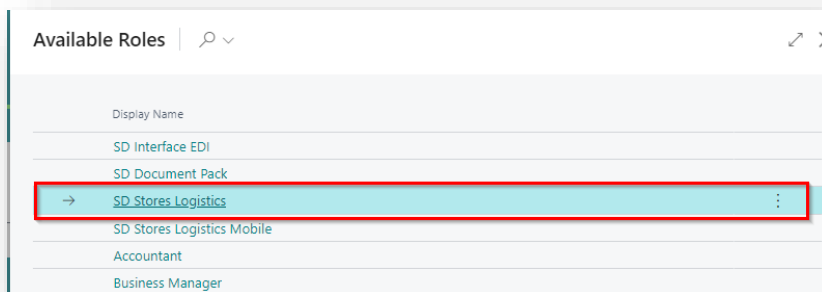

Figure 4-9
3. You should see **SD Stores Logistics** in the list of Roles (Figure 4-9).